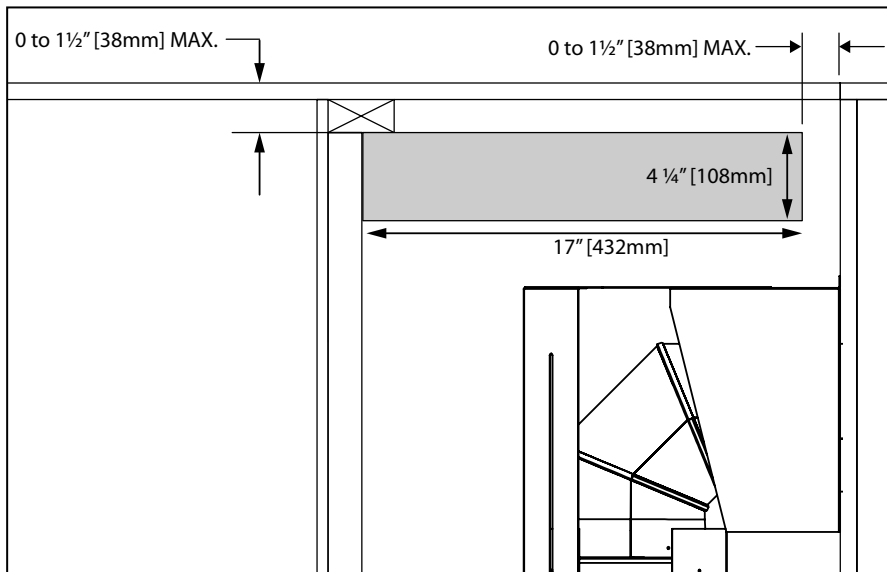

Figure 48: Side Discharge
**Option 3: Side Discharge (built-out installations)** - Construct the framing in a way that provides a minimum 17" (432mm) wide by 4 1/4" (64mm) tall opening on each side of the chase. The top of the opening must be no more than 1 1/2" (38mm) from the top of the chase (see Figure 48 & Figure 49). For installations deeper than minimum depth, the side discharge may be reduced to 20 5/8" (524mm) wide by 3 1/2" (89mm) tall. Aftermarket louvers/grills may also be used to accentuate the openings but their restriction must be accounted for. **Minimum free open area, per side, must be no less than 72 1/4 in2 (466 cm2).**